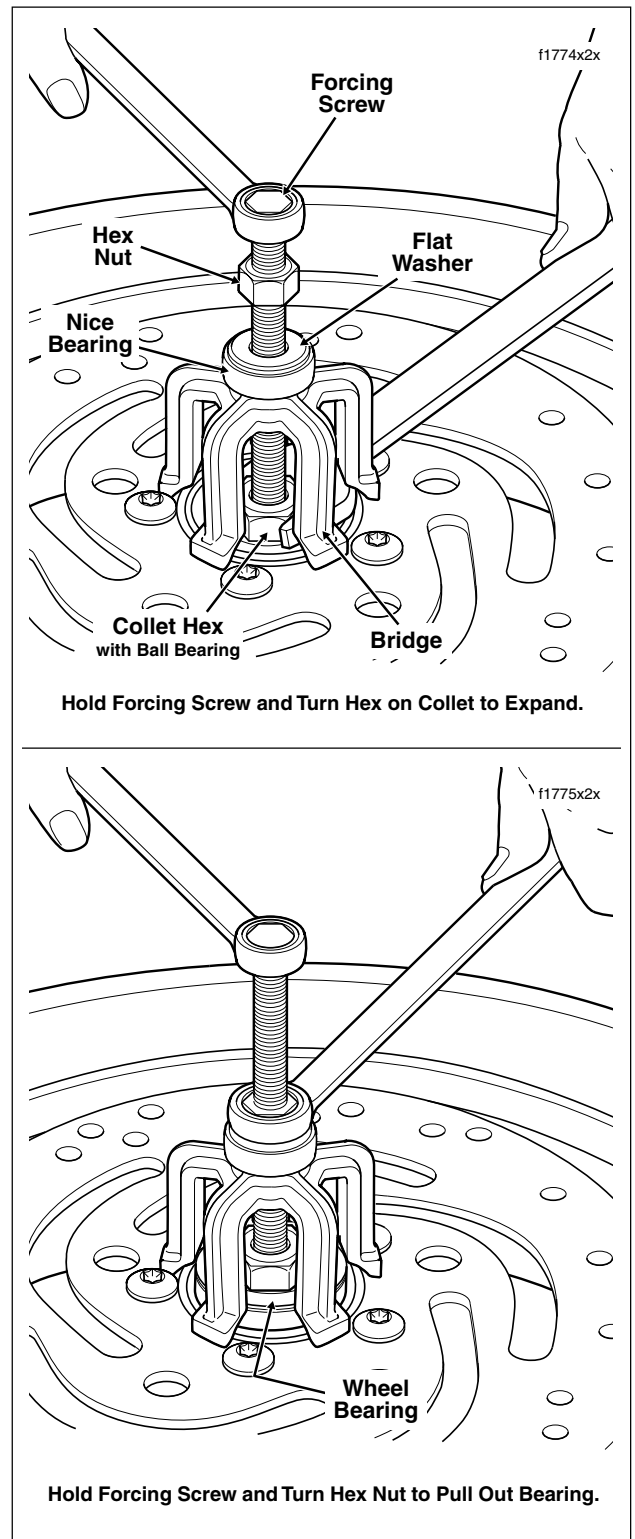

Figure 2-4. Remove Sealed Wheel Bearings
- f. Holding forcing screw to prevent rotation, turn hex on collet until lip makes firm contact with inside edge of bearing. See upper frame of Figure 2-4.
- g. Holding forcing screw, turn hex nut until bearing is free. See lower frame of Figure 2-4.